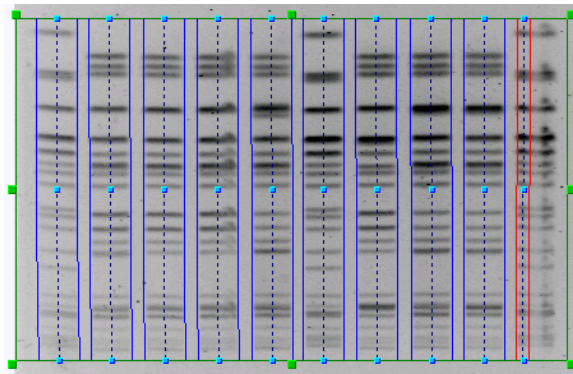

Figure 7: Adjusting the thickness and positions of the splines.
11. Decrease the thickness of the spline in lane **10** by clicking one of its nodes and repeatedly pressing  or **F8**. Then move the spline over to the good portion of the lane to the left (see Figure 7).